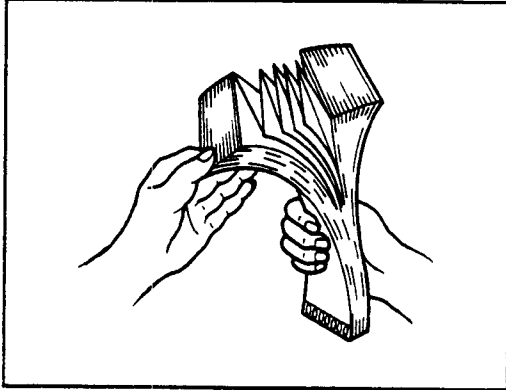

Figure 10-12.
- When new chart is used, to prevent chart from duplicate feeding and jamming, fan chart thoroughly at both ends as shown in Figure 10-12 before installing chart in the chart stock.